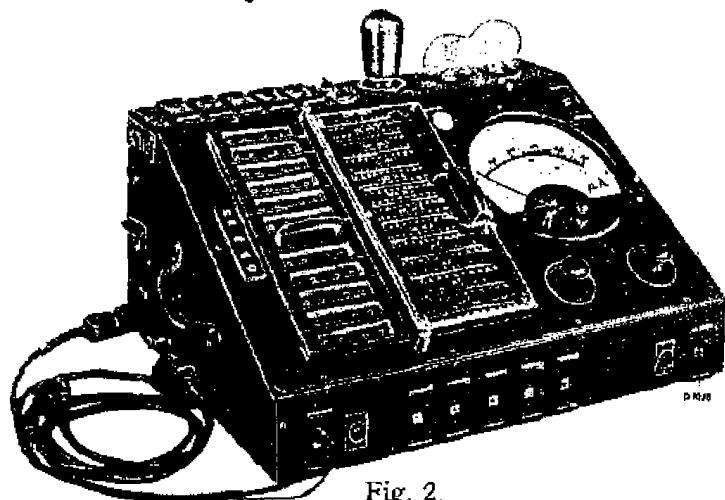

Fig. 2.
3. An output indicator, i.e., triode voltmeter connected in parallel with the loudspeaker. The output indicator in the testing apparatus, Type 4256 (Fig. 2) is, of course, quite suitable. An adaptation box for connecting between moving coil milliammeters (GM.2295) can also be supplied.
In this connection fault finding will be considerably simplified by using the Universal Test-board shown at Fig. 2.